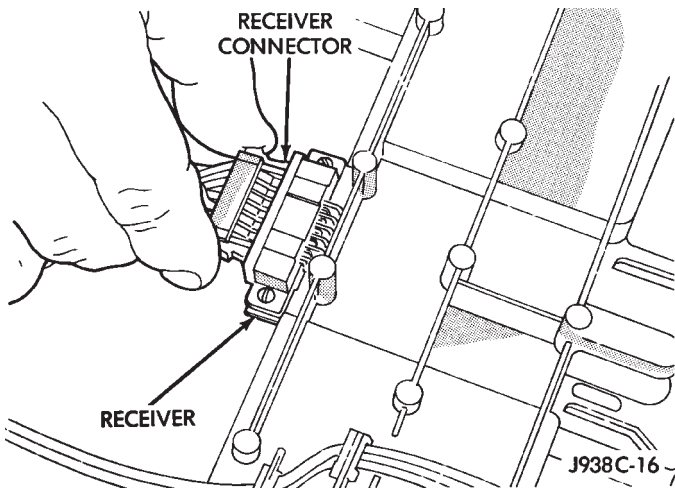

Fig. 6 Keyless Entry Harness Connector
- (2) Unplug Trip Computer harness connector.
- (3) Slide console forward until the console detaches from the rear mounting bracket.
- (4) Unplug keyless entry harness connector (Fig. 6).